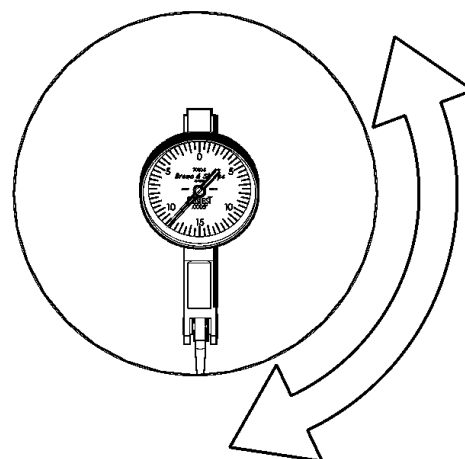

FIGURE 3-3. DRILL ALIGNMENT
3. Align the drill centerline to the hole using a dial indicator (see Figure 3-3).